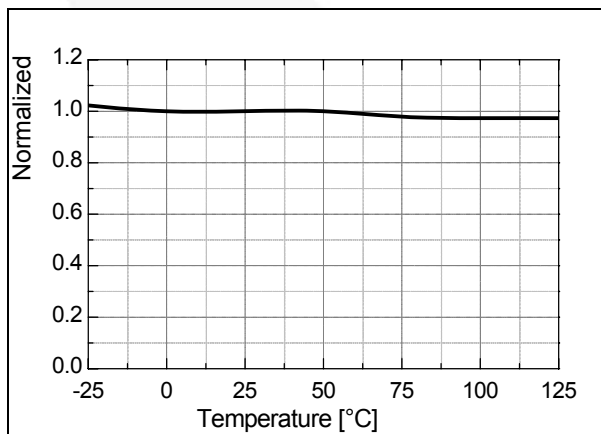

Figure 23. Burst-Mode Low Threshold Voltage (V_{burl}) vs. T_A
2. Feedback Control: FPS employs current-mode control, as shown in Figure 23. An opto-coupler (such as the FOD817A) and shunt regulator (such as the KA431) are typically used to implement the feedback network. Comparing the feedback voltage with the voltage across the R_{sense} resistor makes it possible to control the switching duty cycle. When the reference pin voltage of the shunt regulator exceeds the internal reference voltage of 2.5V, the opto-coupler LED current increases, pulling down the feedback voltage and reducing the duty cycle. This typically happens when the input voltage is increased or the output load is decreased.
2.1 Pulse-by-Pulse Current Limit: Because current-mode control is employed, the peak current through the SenseFET is limited by the inverting input of PWM comparator (V_{FB}^*), as shown in Figure 23. Assuming that the 0.9mA current source flows only through the internal resistor ($3R + R = 2.8k$), the cathode voltage of diode D2 is about 2.5V. Since D1 is blocked when the feedback voltage (V_{FB}) exceeds 2.5V, the maximum voltage of the cathode of D2 is clamped at this voltage, clamping V_{FB}^* . Therefore, the peak value of the current through the SenseFET is limited.